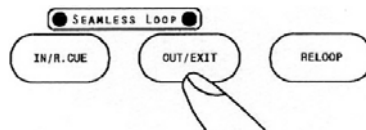

Fig. 11
- d. To exit SEAMLESS LOOP, press OUT/EXIT Button. The LED will stay on but not flash. Music will resume normal play (Fig. 11).